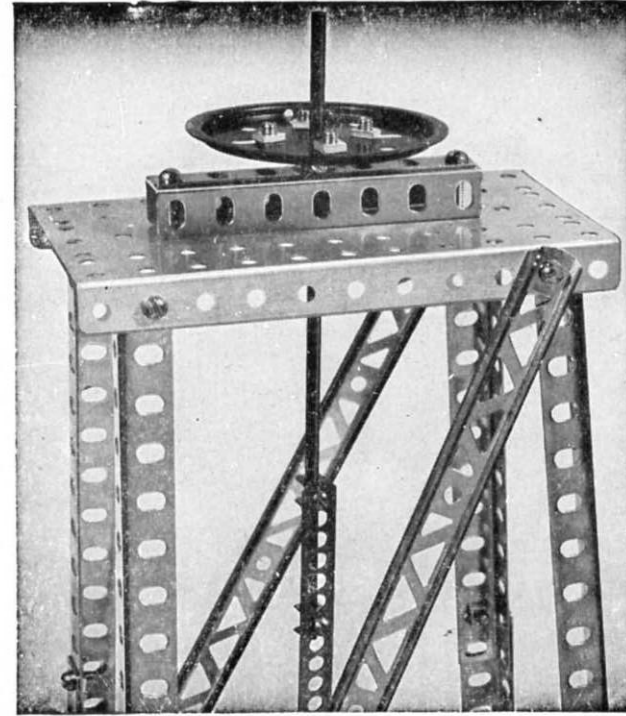

FIGURE 3
the bearing block is a 4" axle. On this axle is fastened a P37 collar and an (I) 21 hole strip. To this 21 hole strip is fastened a second (I) 21 hole strip which has on the top end two P37 collars and a (CZ) 7" axle which passes through the top (MD) 2-1/2" x 5" base plates and through the 2 (MO) 3" angle girders. By referring to Figure 3, you will see a (BN) regular turret plate fastened to a (BT) pierced disc which in turn is fastened to the 7" axle.